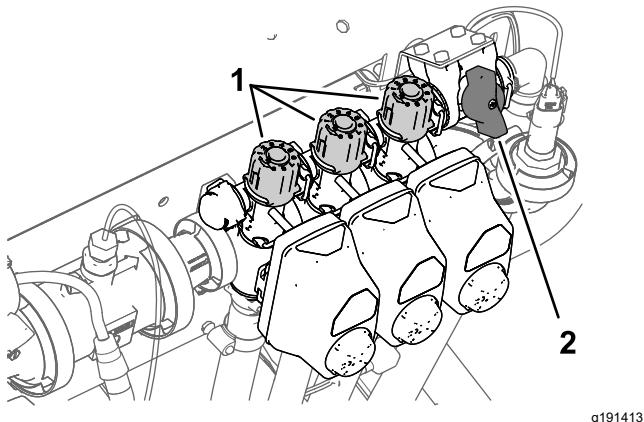

Figure 33
2. Turn off the left-section switch and adjust the section-bypass knob (Figure 33) until the rate displayed is at the previous level according to the table.
4. Adjust the right section-bypass knob (Figure 33) until the rate displayed is at the previous level according to the table.
6. Adjust the center section-bypass knob (Figure 33) until the rate displayed is at the previous level according to the table.